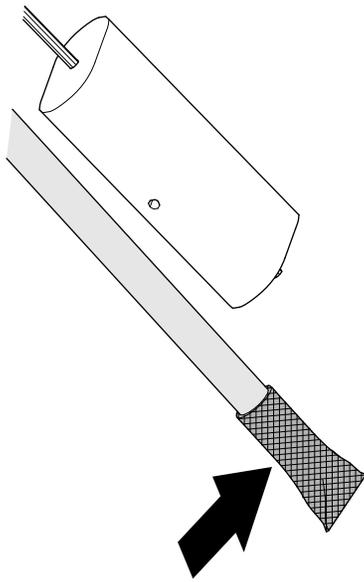

Figure 90
1. Clean the screen at the end of the fuel pick-up tube (Figure 90).